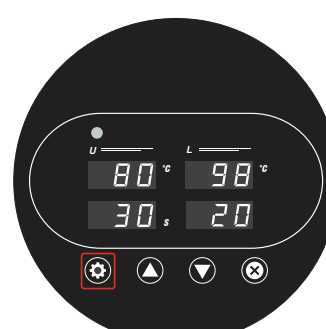

Fig. 5
5. Press Set  button again (Fig. 5) to go into the timer setting mode.